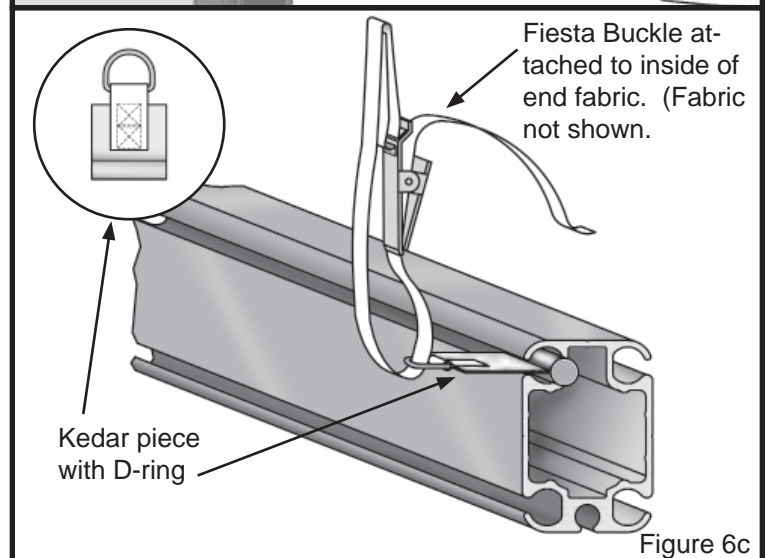

Figure 6c
- After end fabric is in place, fiesta buckles on inside of fabric at eave must be connected. Slide kedar pieces with d-ring into top/outside channel of eave beam. Align these with corresponding fiesta buckles. Slide web through d-ring as shown in figure 6c. Tighten webs.